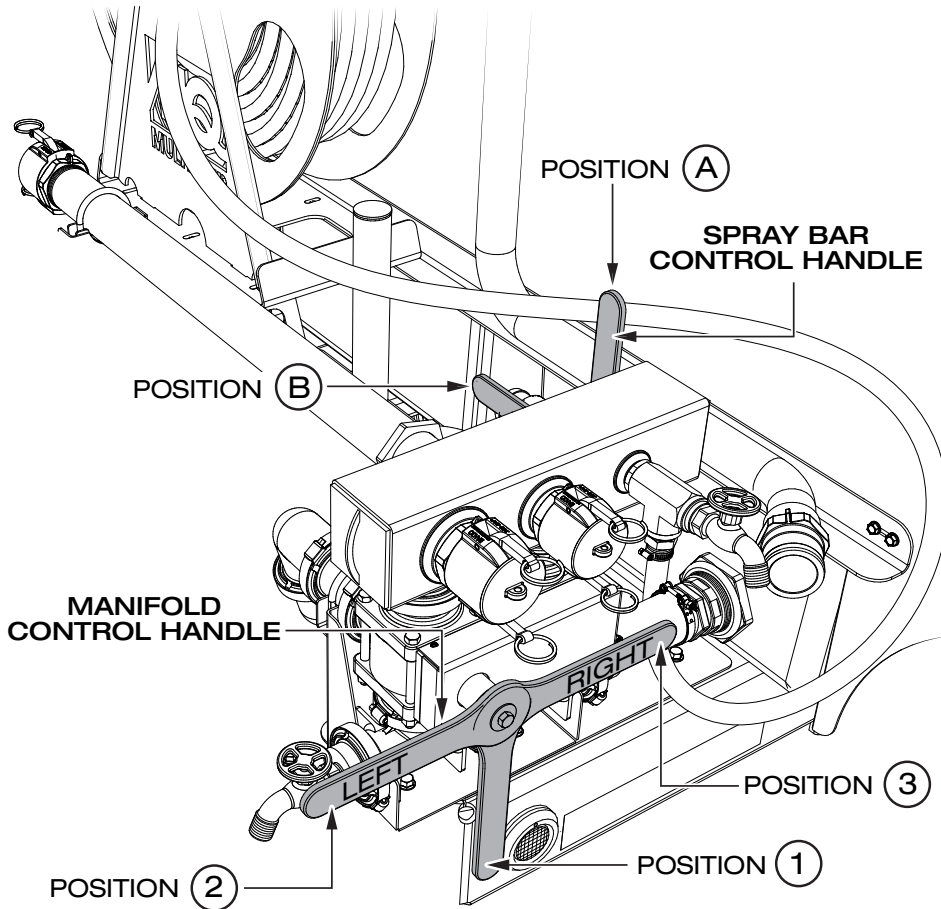

Figure 18. Pump Control Handle Positions
1. Place the manifold control handle in the **OFF** (vertical) position. See Figure 18 and Table 5.
12. To activate pumping, set the manifold and spray bar control handles as shown in Figure 18 and Table 5.
Reference Figure 18 and Table 5 for the various operating positions of the manifold and spray bar control handles.
3. Ensure that the **spray bar control handle** is in the **OFF** position (Figure 18, Table 5).
4. Place the **manifold control handle** in the **discharge** position (Figure 18, Table 5).
3. Place the **spray bar control handle** in the **ON** position (Figure 18, Table 5).
2. Ensure that the **spray bar control handle** is in the **OFF** position (Figure 18, Table 5).